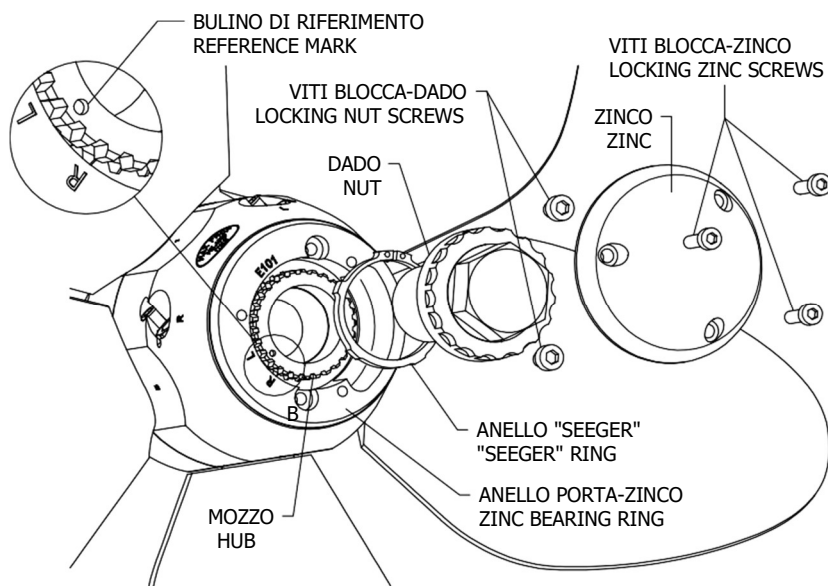

fig. 6
In order to change rotation of your MAX PROP propeller, from right-hand rotation to left-hand rotation or vice versa, operate as follows referring to fig.6.
- f. If you reassemble the zinc-holding ring, placing the tooth "R" at the tooth of the hub where the engraving is stamped, you will have a right-hand propeller, if you rather insert the ring placing the tooth "L" at the tooth of the hub where the engraving is stamped, you will have a left-hand propeller (see Fig. 6).